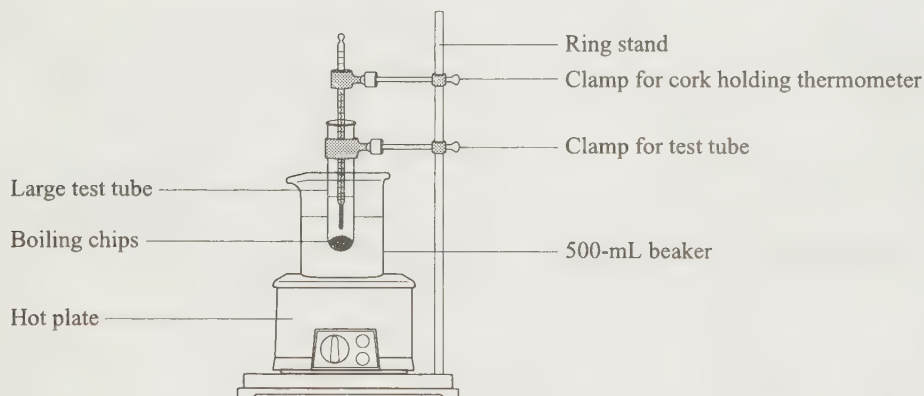

FIGURE 1
2. Assemble the apparatus shown in Figure 1. Add about 300 mL of water to the 500-mL beaker and about 3 mL of methanol, CH_3OH , to the test tube. Do not forget to add the boiling chips to the test tube. Turn on the hot plate to medium. Use a stirring rod to stir the water while it is being heated, and pay close attention to the thermometer readings. Note that as the methanol boils, its temperature remains constant. Record the boiling point.